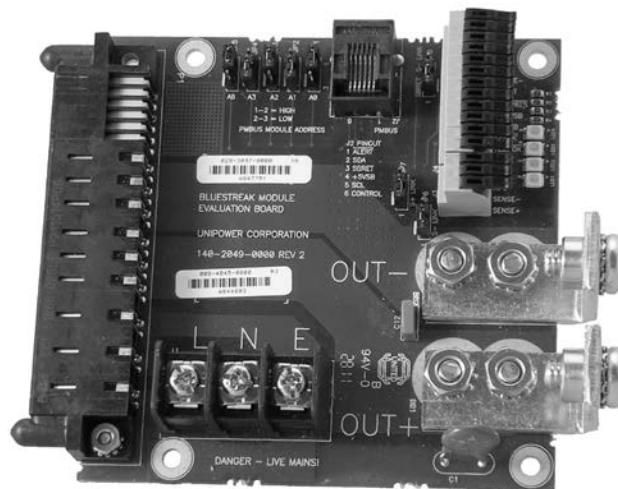

Figure 6 – Mating Interface Board
12.3 Mating Interface Board - Figure 6 shows a mating interface board which is available for simplifying the testing of an **auro-he** module. As shown in the photograph, provision is made for input and output connections as well as the control and monitoring signals and I²C interface.